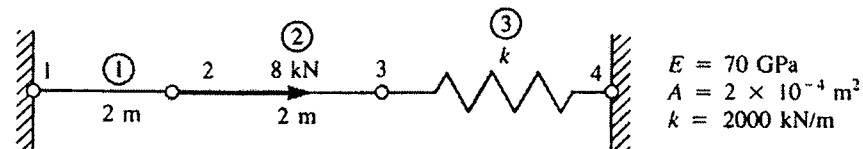

Figure Q2[b]
- [b] For the assemblage shown in Figure Q2[b], determine the nodal displacements, the forces in each element and the nodal reactions.